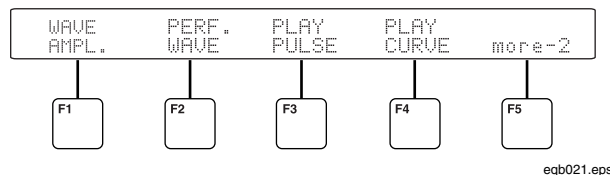

Figure 19. Main Menu - Page 2
- Repeat the discharged pulse by pressing **more-2 (F5)** to advance to page 2 of the Main menu as shown in Figure 19.